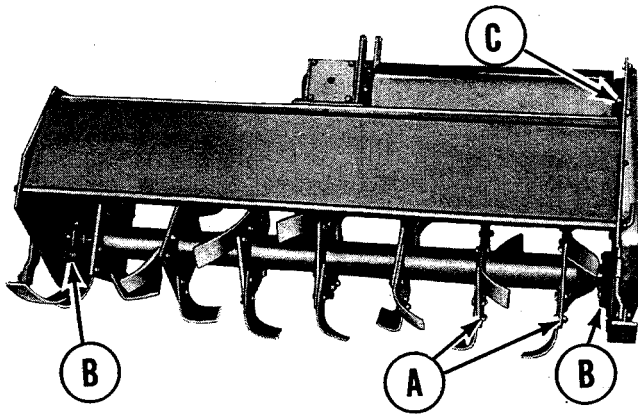

Figure 10. Tine assembly as seen from rear of tiller.
Inspect the rotary tiller thoroughly looking for loose or missing bolts, pins or spring clips, oil leaks, worn parts, etc. Check the tine mounting bolts (figure 10, item A) to be sure they are tight. They should be kept torqued to 40 foot pounds. Also check the tine shaft for wire, chain or other foreign material which may interfere with proper tilling or cause damage to the tiller. Clean or repair as needed to insure the tiller is ready to use the next time you need it.
2	Tine Shaft (figure 10, item B)
1	Cross Drive Shaft (figure 10, item C)
See figure 10. If tine replacement is required due to wear or breakage, be sure the tine blades are installed correctly as shown and the tine bolts (A) are tightened to 40 foot pounds torque. For best performance, **USE ONLY GENUINE REPLACEMENT PARTS.**